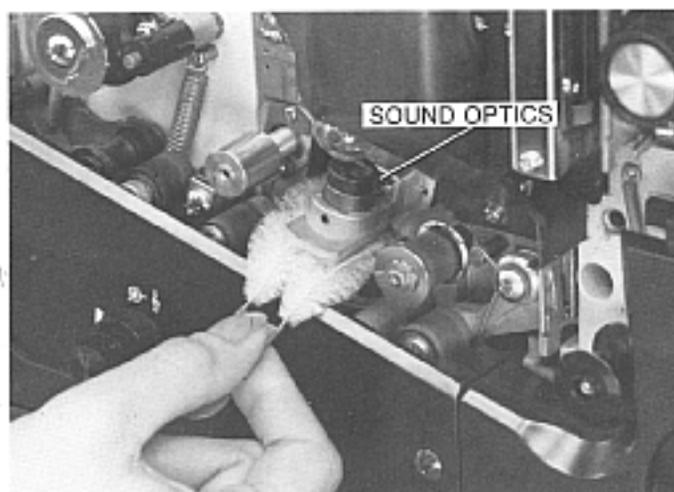

Figure 23
3. Use the wire-handled brush with white bristles—supplied with the projector—to clean the rollers, capstan, sprockets, sound optics, and solar cell as shown in Figure 23. Keep the brush itself clean with canned air or another brush.